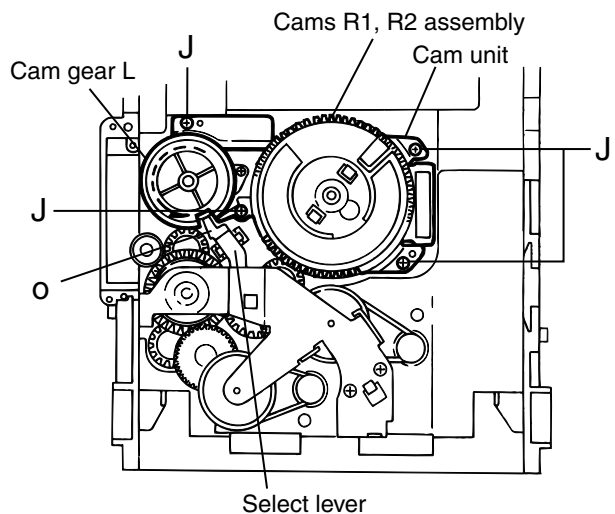

Fig.18
4. While turning the cam gear **L**, align the pawl **o** position of the select lever to the notch position(Fig.18) on the cam gear **L**.
5. Remove the four screws **J** retaining the cam unit(cam gear **L** and cams R1/R2 assembly)(See Fig.18).